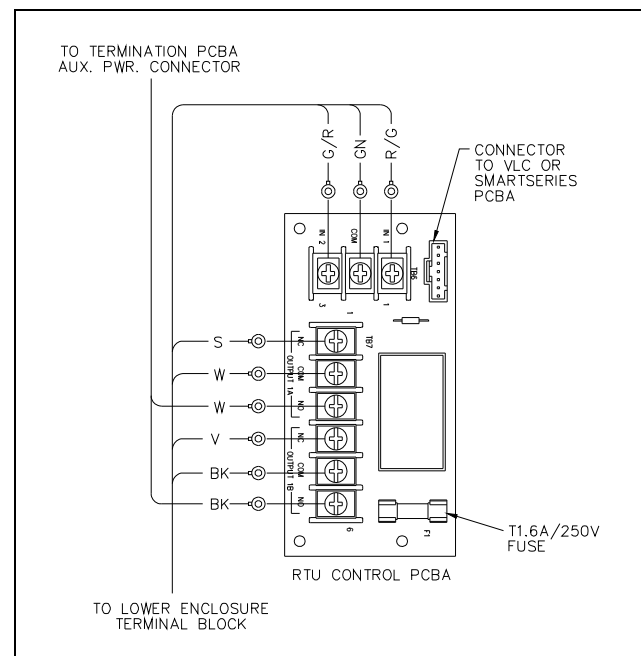

Figure 11. No. 69627 Series RTU PCBA
The No. 69627 RTU (Remote Terminal Unit) PCBA (see Figure 11) adds remotely controlled dry contact relay outputs to an ICS Page/Party station equipped with either a VLC PCBA or a SmartSeries PCBA in conjunction with an ADVANCE head end. Two supervised inputs are also available when installed with the SmartSeries PCBA in conjunction with an ADVANCE head end.
4. Connect the ring lugged cable harness to the RTU PCBA in the upper enclosure (see Figure 11).